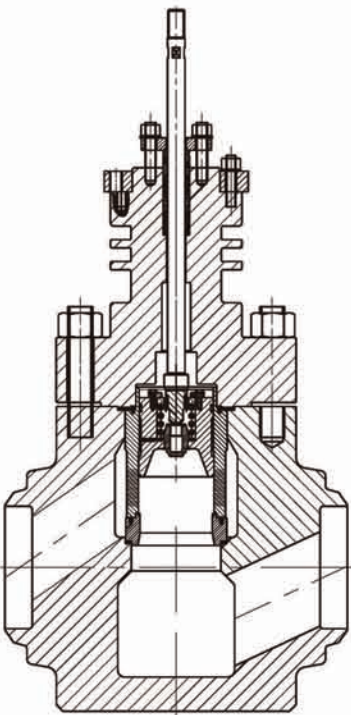

图22 高压调节阀
1.2、DC1820系列高压调节阀的拆卸（阀门结构见图22）
Disassembly of dc1820 series high pressure regulating valve (see Figure 22 for valve structure)
Figure 22 high pressure regulating valve
2.2、DC1820系列高压调节阀的装配次序及要求（阀门结构见图22）
Assembly sequence and requirements of dc1820 series high pressure regulating valve (see Figure 22 for valve structure)